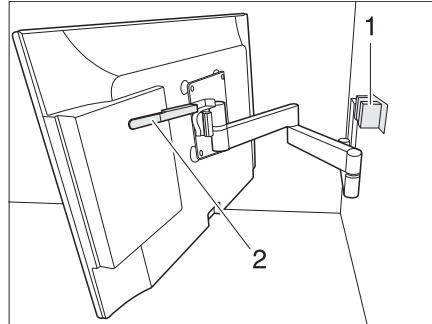

Fig. 62 Holder with jointed arm
- Press the lever (Bild 62,2) downwards to release the flat screen from the latch (Bild 62,1). Release the lever.